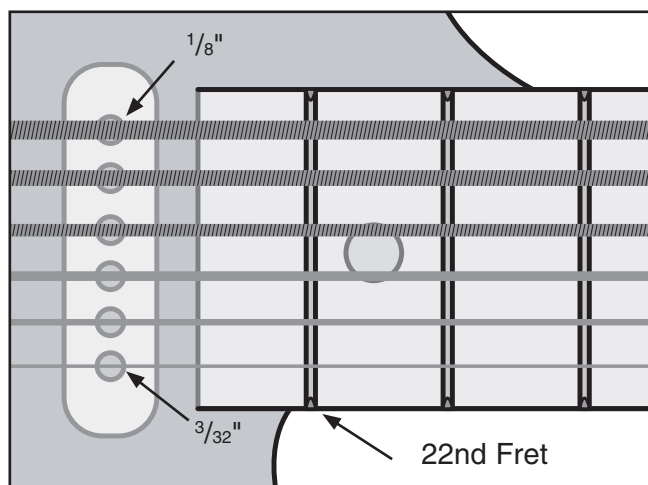

Figure 39. String heights over the pickup.
1. Measure the height of the 1st and 6th strings at the pickup while the strings are "fretted" at the 22nd fret (**Figure 39**).